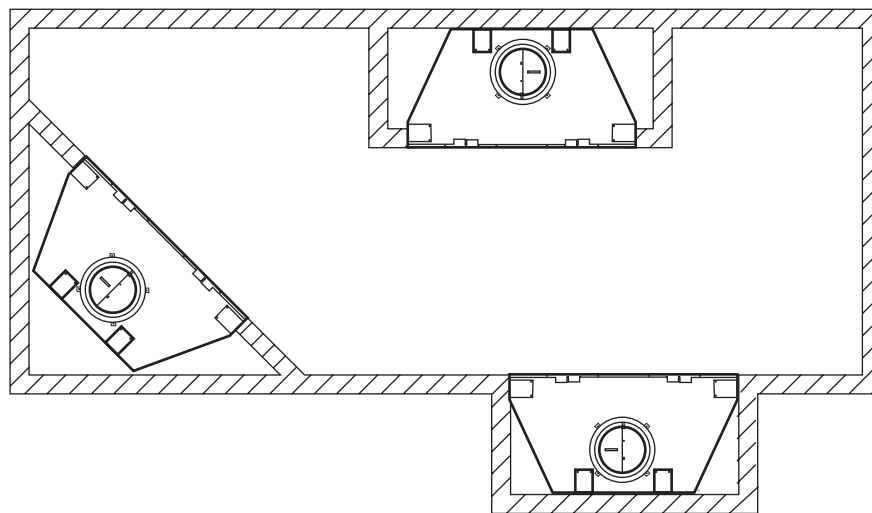

Figure 2 - Suggested Fireplace Locations
- This fireplace may be installed along a wall, across a corner, or use an exterior chase. *See Figure 2* for suggested locations.